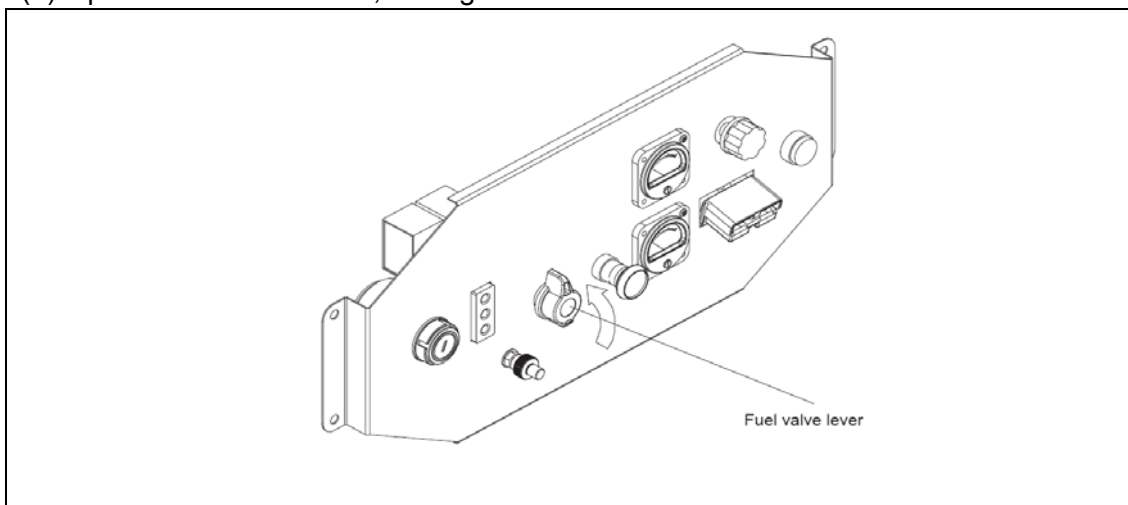

Fig.8 Fuel valve lever to the ON position
(1) Open the fuel valve first, see fig.8.